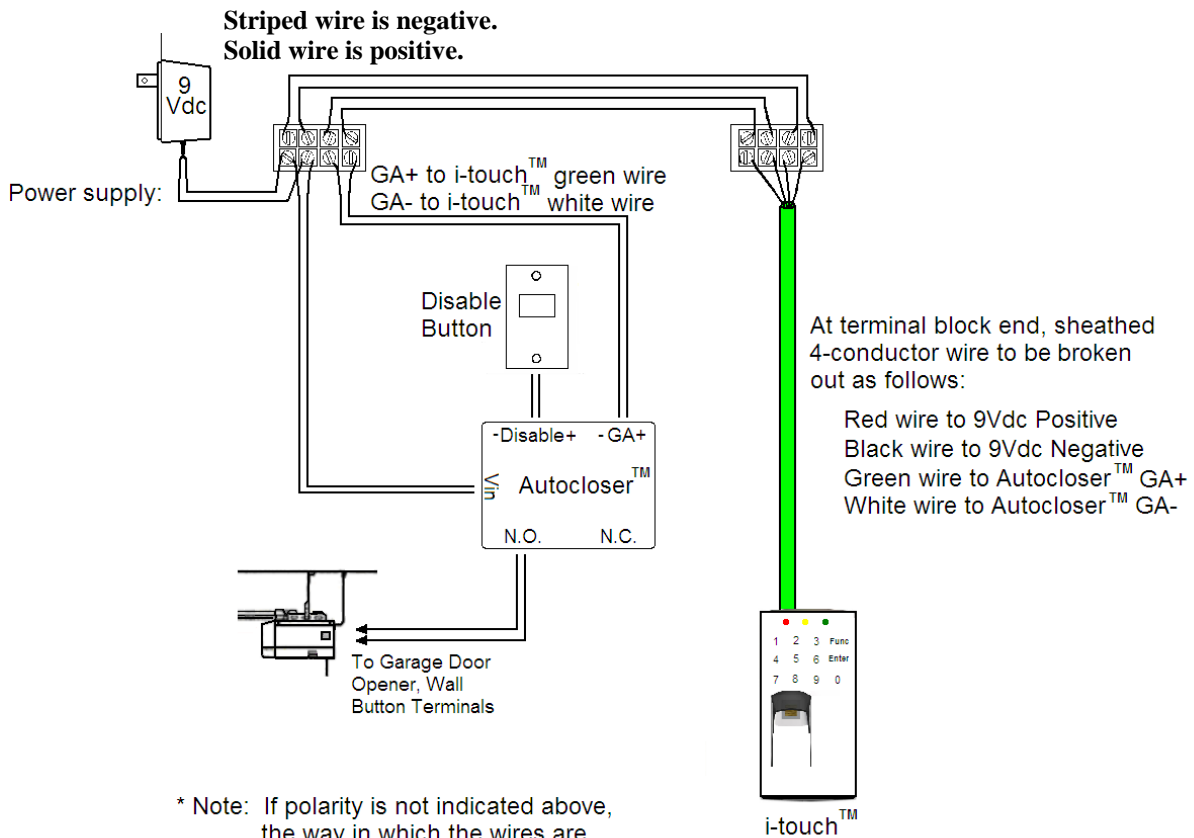

Fig. 4
6. Connect wires per Wiring Instructions (Fig. 4) on the following page.
5. Connect wires per Wiring Instructions (Fig. 4) on the following page.